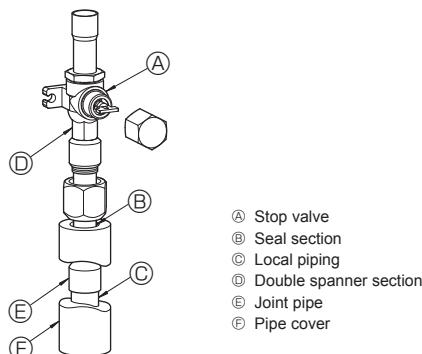

Fig. 4-3
③ Use the following procedure for connecting the gas-side piping. (Fig. 4-3)
- Braze the ④ Joint pipe provided to the outdoor unit using locally procured brazing materials and ⑤ Local piping without oxygen.
- Connect the ⑥ Joint pipe to the gas-side Stop valve. Use 2 wrenches to tighten the flare nut.